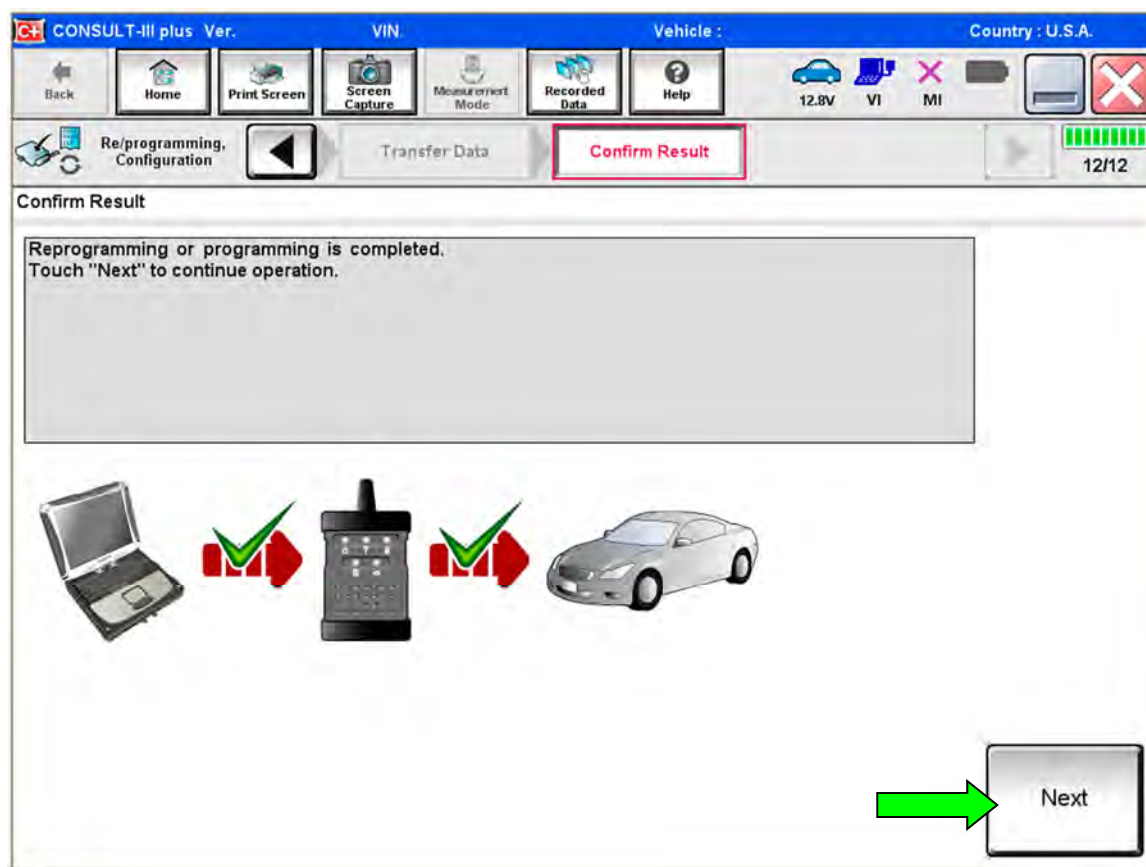

Figure 159
141. When the screen in Figure 159 displays, reprogramming is complete.
**NOTE:** If the screen in Figure 159 does not display (indicating that reprogramming did not complete), refer to the information on the next page.